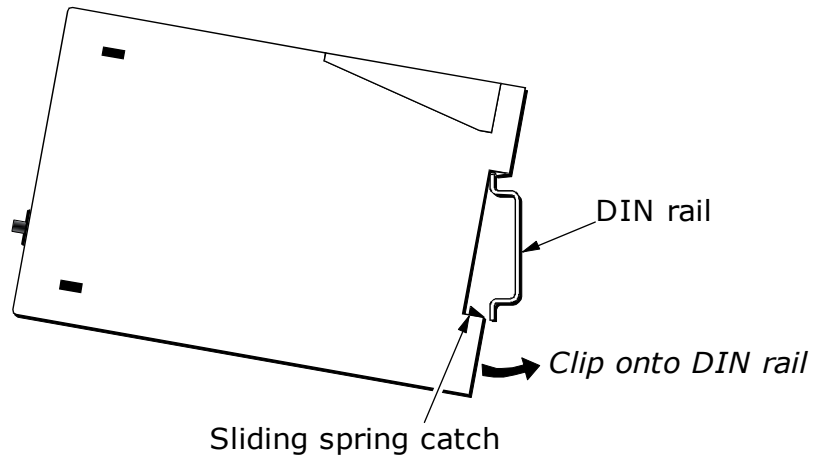

Fig. 3 Installing the LM Technic onto a DIN rail
- 2) Refer to Fig. 3. Rest the uppermost groove on the rear of the processor on the top lip of the DIN rail.